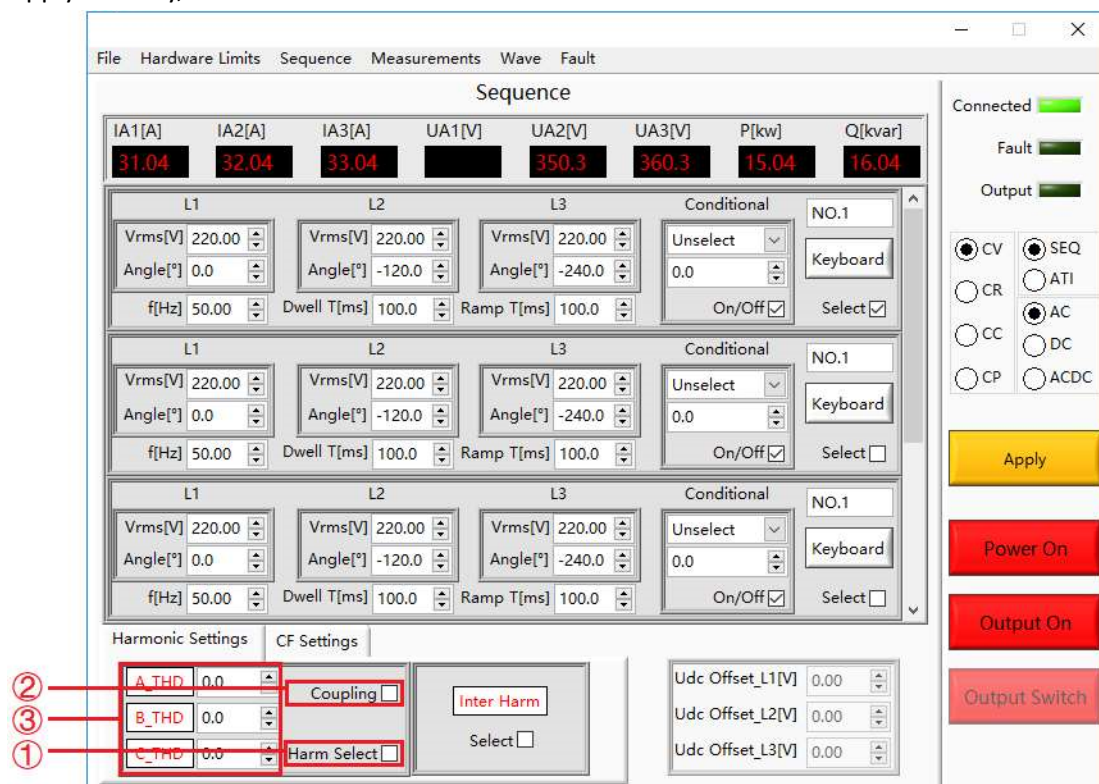

Figure 5-15 Harmonic Edit-1
Click "Sequence Mode" to enter the panel, firstly set the operating parameters (such as output voltage, frequency). Click "Apply"→"Power On"→"Output On", the power supply is on. Check the harmonic selection box (Figure 5-15①), click the A/B/C phase harmonic simulation button (Figure 5-15③), the harmonic setting panel of each order will automatically pop up, then the user can set the harmonic angle, content and other parameters. After setting the parameters, check the corresponding boxes and click "Setting" → "Apply" in turn.
To cancel the harmonic simulation, click the A/B/C phase harmonic simulation button (Figure 5-15③), click "Clear" on the pop-up panel to clear all parameters, and then click "Setting" → "Apply". Finally, uncheck the harmonic selection box.